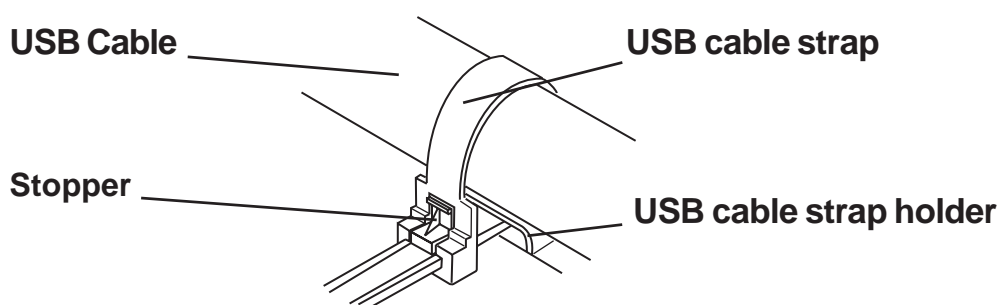

Figure 1
2) Insert the cable strap into the cable strap holder as shown in figure 1, and tighten the strap until the cable is secured in place.